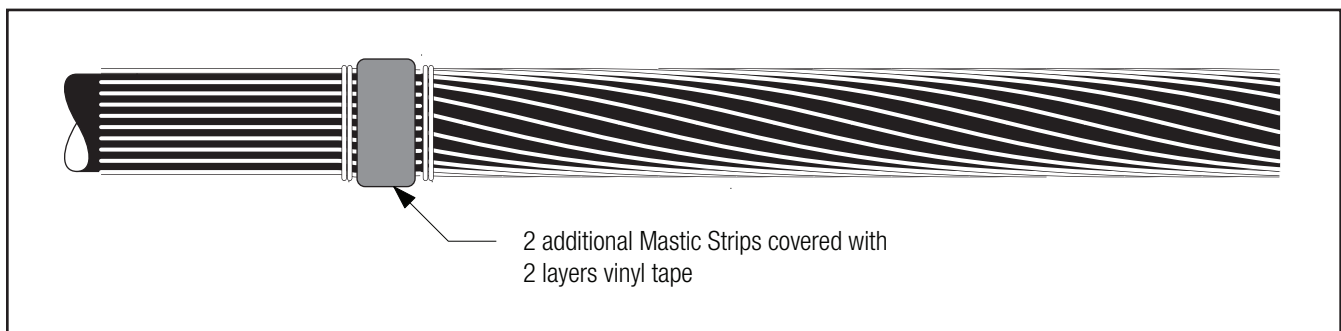

Figure 5
2.4.3 Wrap two additional strips of mastic over the first one and cover with two half lapped layers of vinyl tape (*Figure 5*).